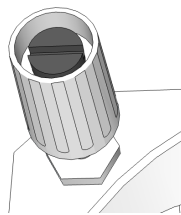

Figure 2. Step 3
3. Unscrew the flat headed screws from within the push-rotary knob while holding the push/rotary knob still by its black plastic. Pull the black plastic part off of the push-rotary shaft (see figure 2).